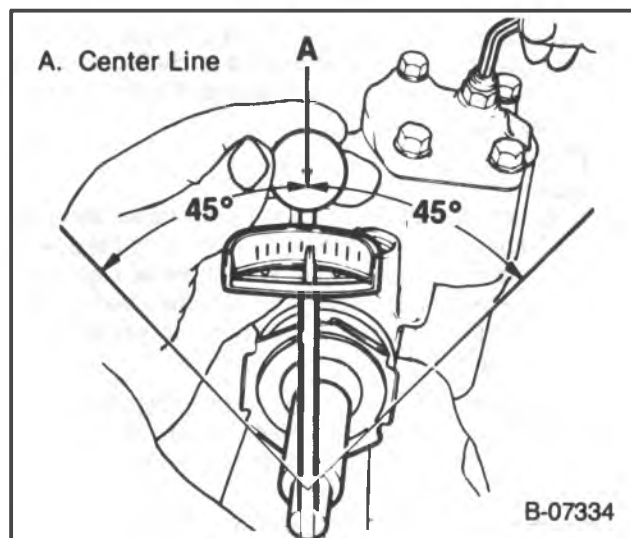

Figure 22 — Checking Over-Center Rotational Torque
4. Place the torque wrench, with the handle in the vertical position, on the stub shaft. Rotate the torque wrench 45 degrees each side of the center and record the highest drag torque measured on or near center (figure 22).
5. Adjust over-center drag torque by loosening the adjuster screw jam nut (17) and turning the pitman shaft adjuster screw (73) clockwise until the correct drag torque is obtained.
↔ Install or Connect (Figures 22 through 32)